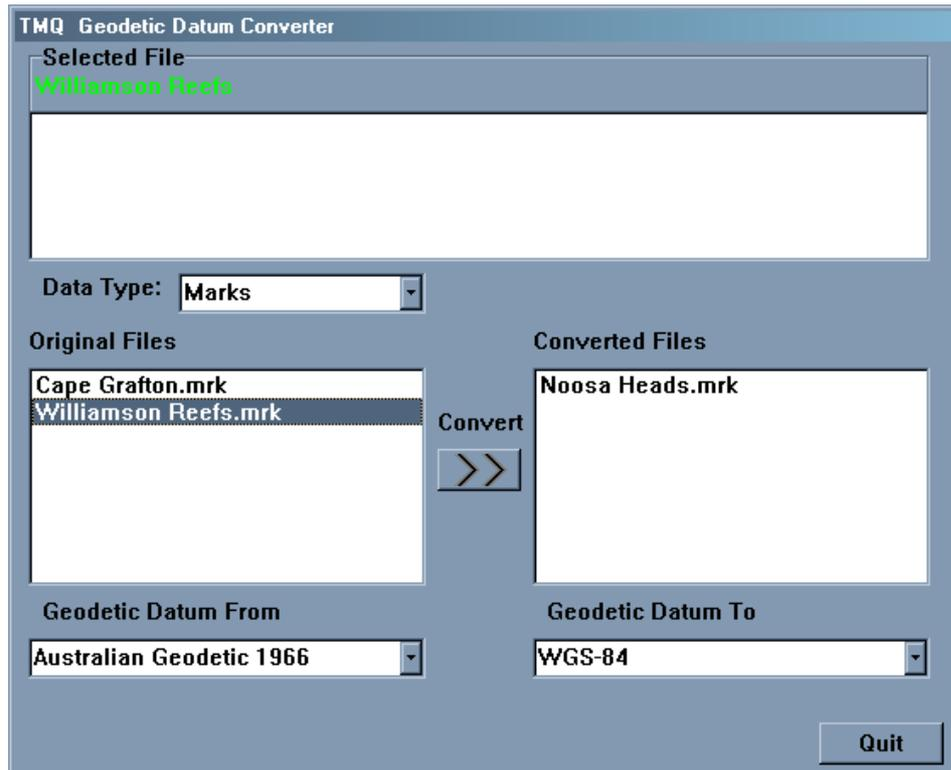

Figure 4.8
4. Click ‘Convert’. The converted file will now appear in the ‘Converted Files’ section. (See Figure 4.8)